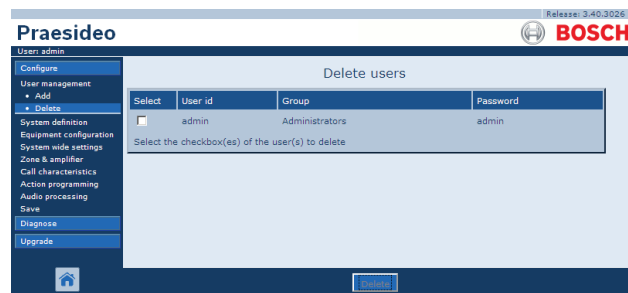

figure 41.7: Delete user, step 3
- 3 Click the *Delete* button to delete the account. A screen similar to the one in figure 41.7 appears in the main frame of the web interface. This screen does not contain the deleted account anymore.